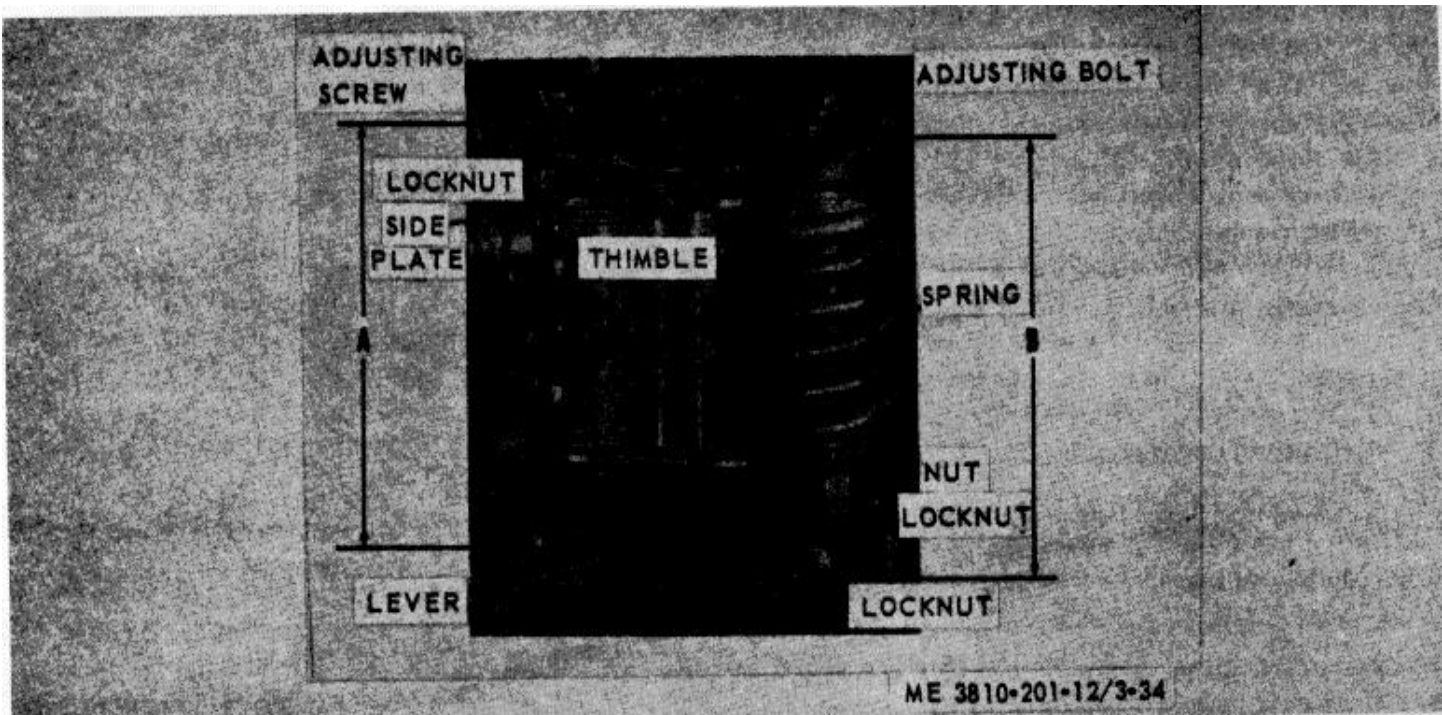

Figure 3-34. Boom hoist brake adjustment points.
b. To adjust boom hoist brake, sufficient tension must be placed on spring (fig. 3-34) to hold boom in desired position. Position boom hoist lever in neutral. (With boom hoist lever in neutral brake is applied and clutch is disengaged). Turn nut clockwise until brake band is tight, then tighten locknut.